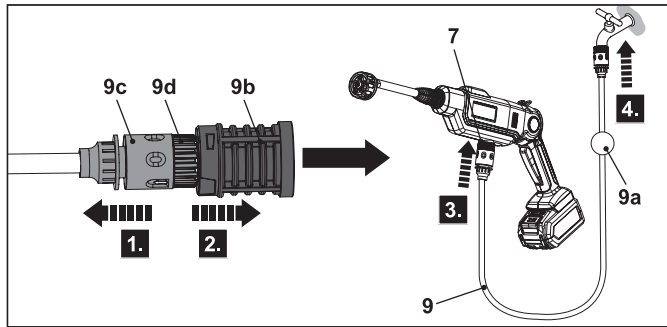

Fig. 8
1. Press down the collar (9c) (Fig. 8, step 1) and remove the filter adaptor (9d) with filter (9b) from the water hose (step 2).
2. Attach the water hose (9) onto the water inlet adaptor (7) (step 3) and then the other end onto the water supply (step 4).